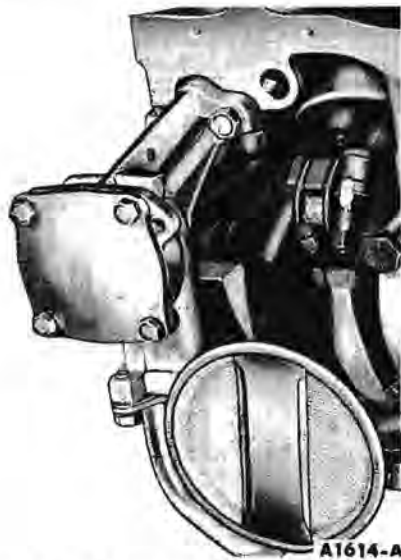

FIG. 53—Oil Pump and Inlet Tube Installed
4. Clean the oil pump inlet tube and screen assembly (Fig. 53).